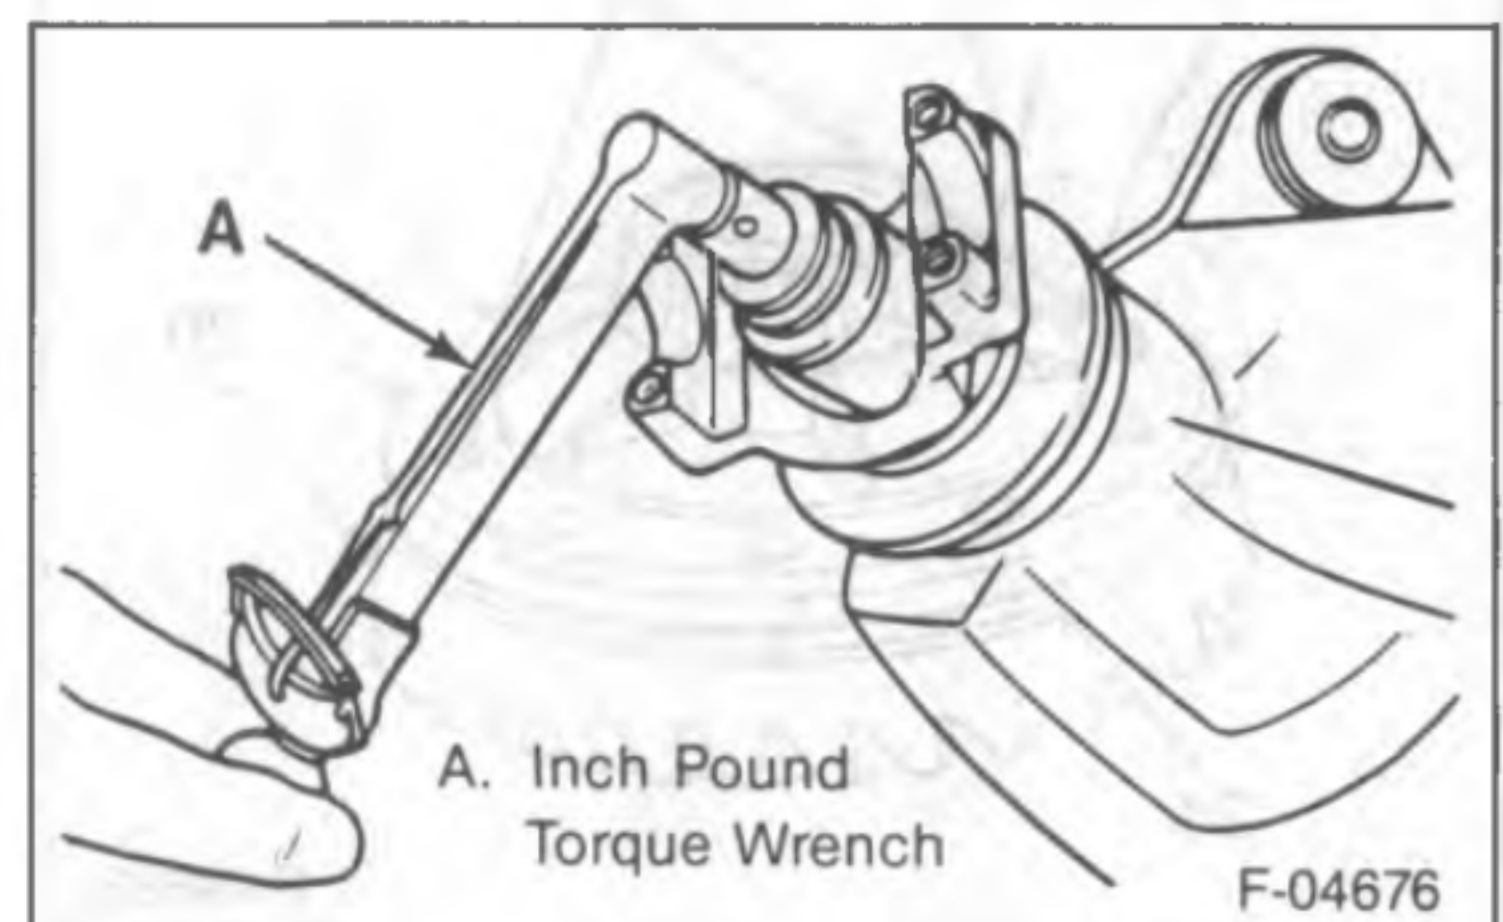

Figure 15—Checking Pinion Preload
- Remove J 8614-01. Using an inch-pound torque wrench, check the pinion preload by rotating the pinion with the wrench (figure 15).